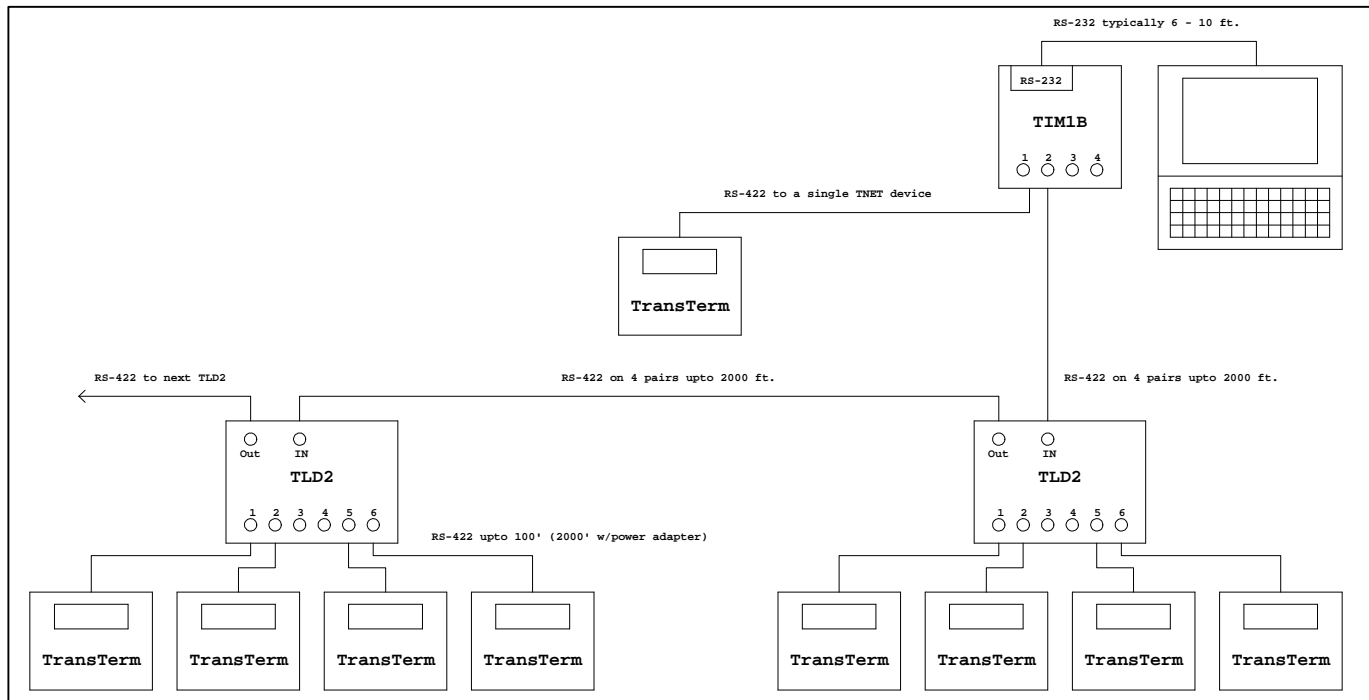

Figure 1
Each TNET system requires a controller (TIM1B) connected to the host computer with a standard RS-232 modem cable. The controller has four (4) identical network ports which typically connect to a hub (TLD2). The hubs are distributed around the facility in convenient locations and can be “daisy chained” together. Up to six (6) data collection devices can be connected directly into each TNET hub. The diagram below (Figure 1) provides a simple example of a typical system topology.